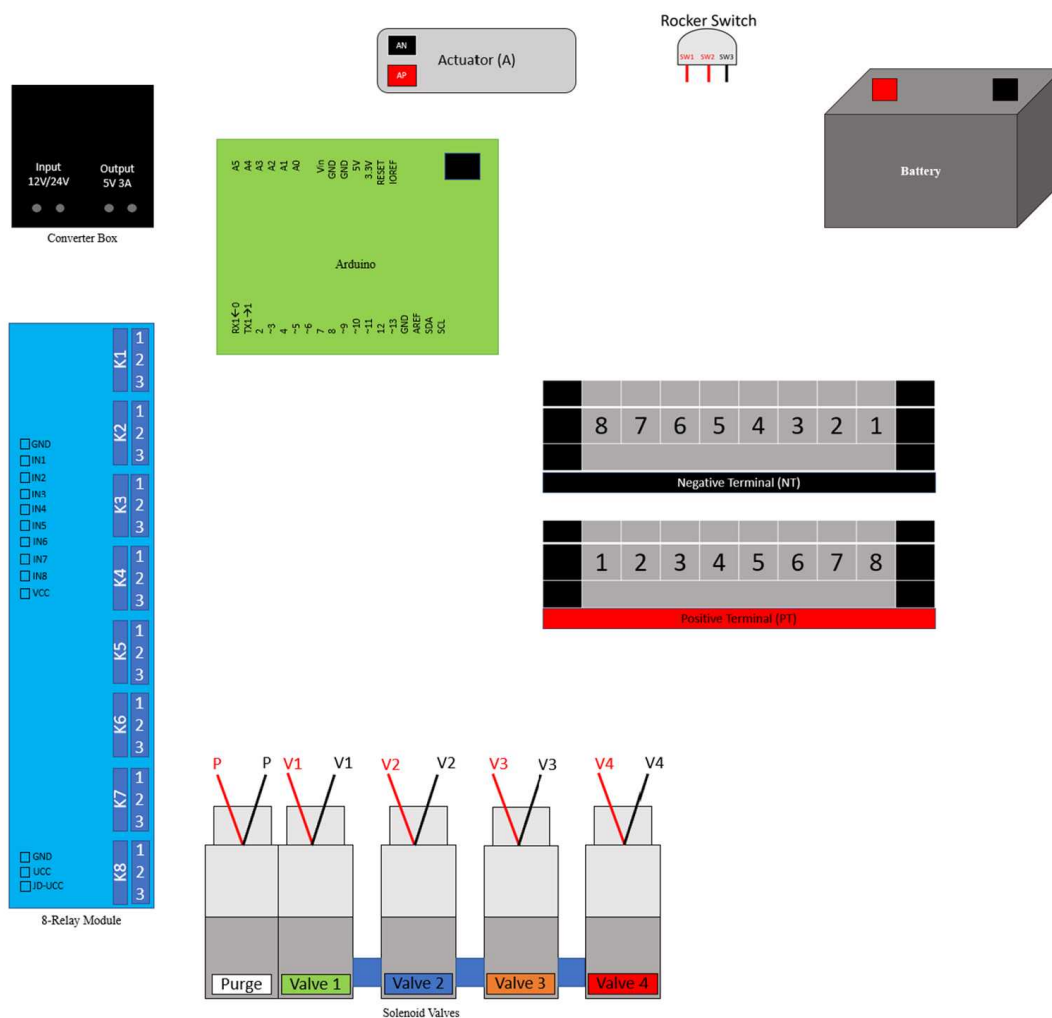

Figure 4. Electrical component arrangement.
- 11.3 Arrange the electrical components following Figure 4.